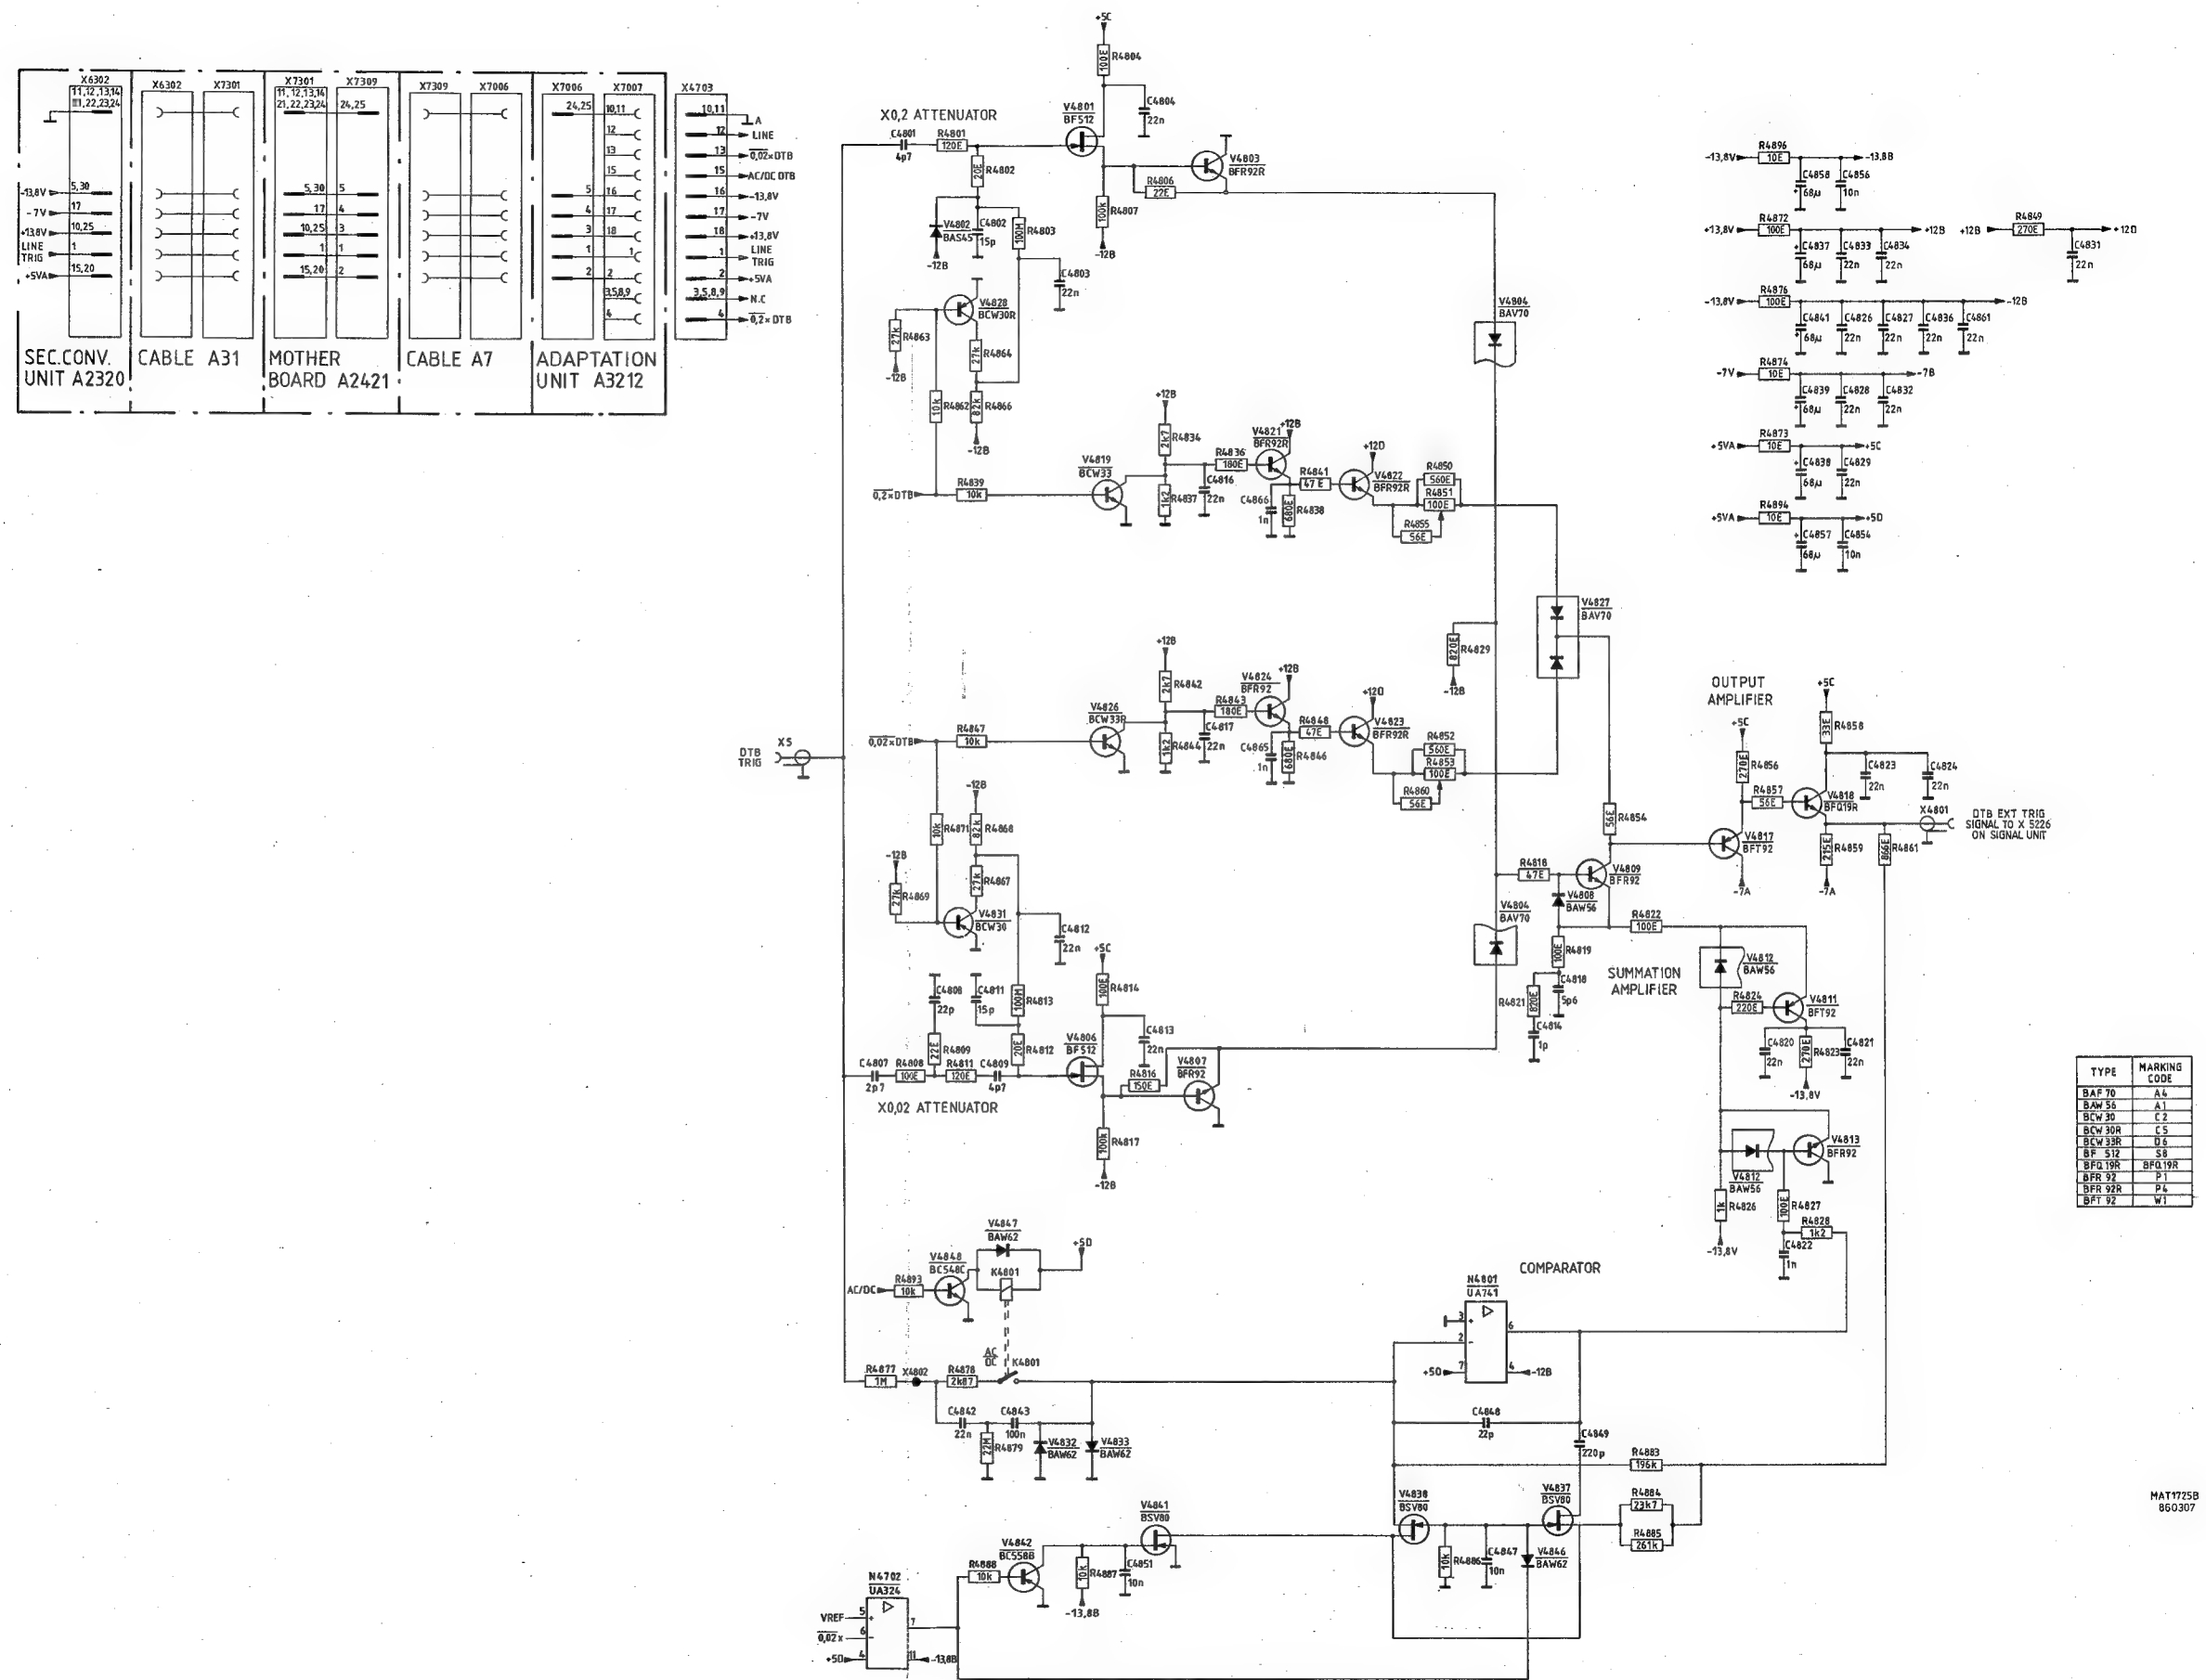

Fig.11.3. External DTB trigger input, circuit diagram.
11.2. CIRCUIT DESCRIPTION OF DTB EXTERNAL TRIGGER INPUT (See fig.11.3.)